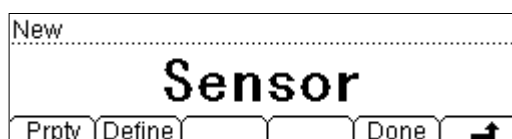

Figure 2-39 New interface
- Press **↵** to finish the parameter settings and return to the **New** interface (figure 2-39).
(3) Press **Done** (figure 2-39), it will appear **Save** and **Apply** options.